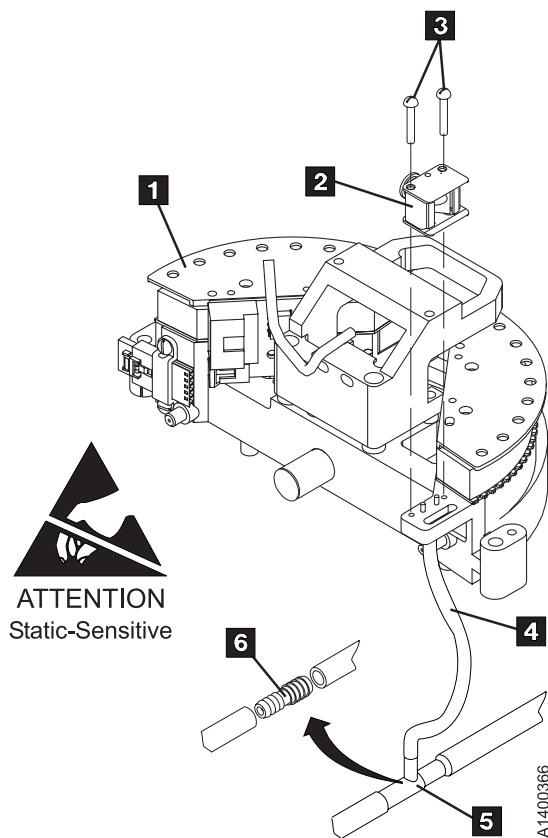

Figure 10-77. Cleaner Blade Removal – During Head Guide and Brush Removal
2. All of the E11/E1A and H11/H1A Head Guide Assemblies (HGAs) and most of the Model B11/B1A HGAs will not have a Cleaner Blade, shown as item **2** in Figure 10-77.